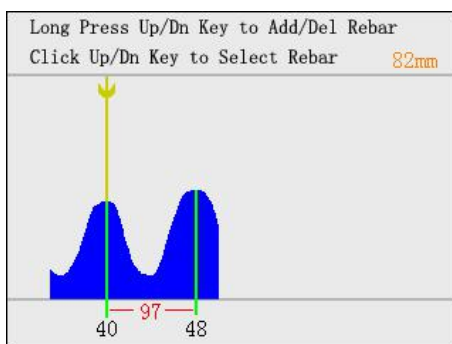

Figure 2.5 Manual modification
1. Press key **Up** to enter the manual modification state, as shown in Figure 2.5. A cursor, as shown by the yellow vertical line in Figure 2.5, will appear, and value in the upper right corner of the screen becomes the position corresponding to the current cursor;